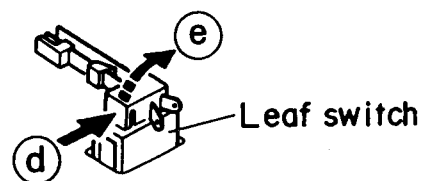

Fig. 2-24
■ **Leaf switch (Fig. 2-24)**
Press the leaf switch in the direction of the arrow ④ and then remove it in the direction of the arrow ⑤ referring to Fig. 2-24.